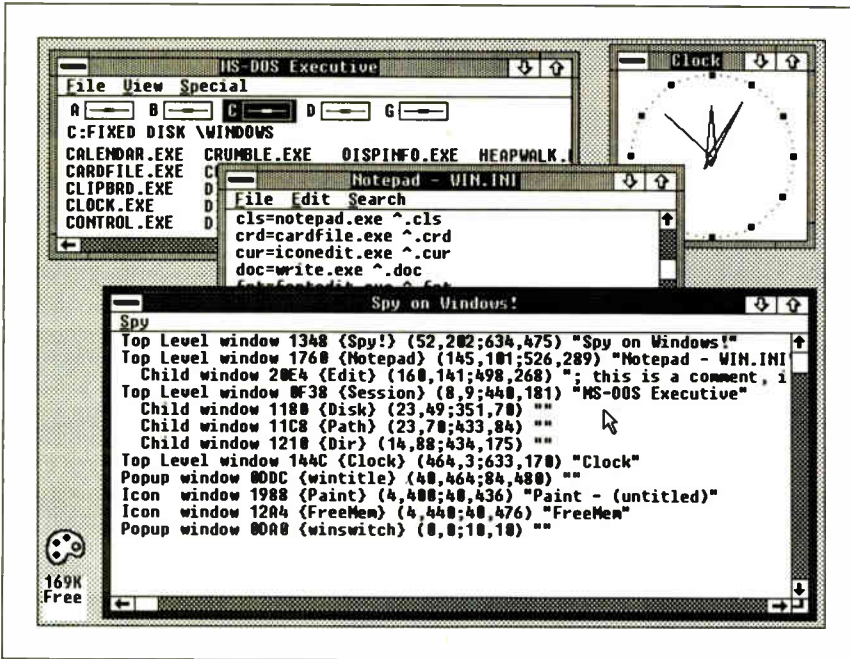

Figure 1: Spy's summary view, showing each window's handle, class name, location, size, and title.
I've used Spy both to investigate techniques used in other Windows applications and to help track down bugs in my own applications. Figures 1 and 2 show Spy on a typical mission, displaying the list of
Figure 1 shows Spy's summary view—one line per window with the basic infor-
- The window class name, shown in figure 1 inside curly braces. Every window belongs to one window class or another, and window classes are identified by name. Many windows can belong to the same class, giving you an easy way to create multiple windows that operate similarly. For example, every editable text field in a dialog box is a child window belonging to the Edit window class.
Child windows are used extensively in Windows applications, as figure 1 shows. They are a handy way to provide different kinds of behavior in different areas of a single application window, since each